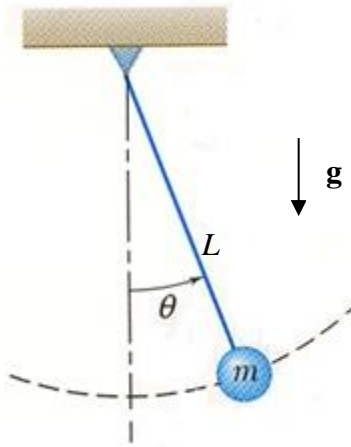

Figure 1.1 The mathematical pendulum
The so-called simple or mathematical pendulum consists of a point mass m swinging at the end of a mass-less inextensible cord of length L . In this exercise, the motion is restricted to a single vertical plane along a circular arc defined by the angle θ , as shown in Figure 1.1 below. We are going to study how changes in the length L of the cord and the mass m affect the period time of the oscillation of the pendulum.
- Draw a free body diagram of the pendulum in Figure 1.1.